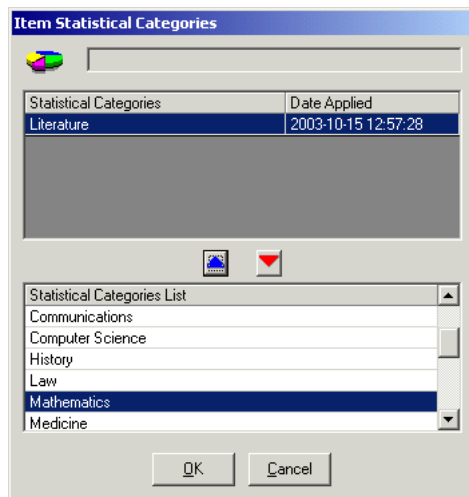

Figure 10-18. Item Statistical Categories dialog box
20. Click the **Item Statistical Category** button (Figure 10-17) to open the **Item Statistical Categories** dialog box (see Figure 10-18). Sites can define types of item characteristics that are not needed for Cataloging but are useful for statistical compilations.